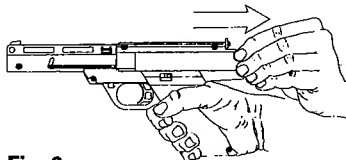

Fig. 6
- Point the air pistol in a safe direction and grab the rear of the slide and pull the slide out until you hear a "click". (Fig 6)